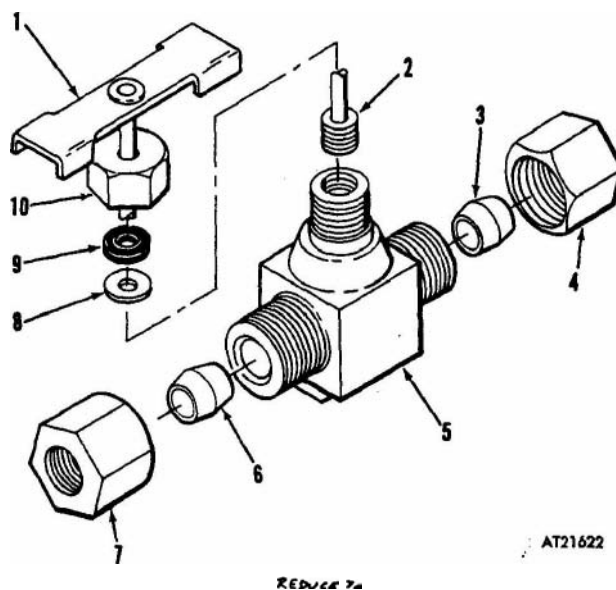

Figure 3-249. Ambulance heater fuel shutoff valve, exploded view.
- (1) Unscrew nut (10, fig 3-249). Unscrew and remove handle and stem assembly consisting of handle (1), stem (2), washer (8), packing washer (9), and nut (10) from valve body (5).